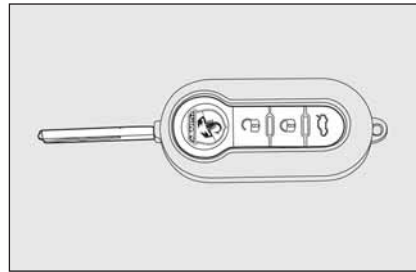
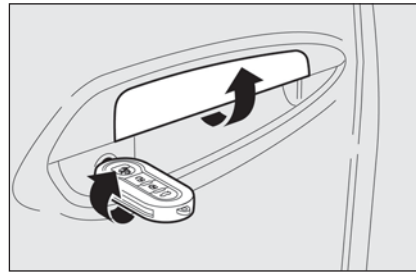
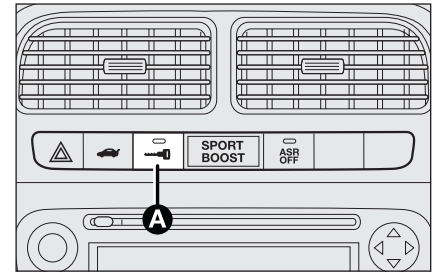

fig. 70
fig. 71
fig. 72
With the doors closed, press the button  on the remote control **fig. 70** or fit and turn clockwise the metal insert into the driver's door lock **fig. 71**. Door locking is indicated by the turning on of the button led **A-fig. 72**. Door locking is only possible if all the doors are closed. Opening one or more doors by pressing the button  on the remote control **fig. 70** will make the direction indicators and the button led **A-fig. 72** flash quickly for about 3 seconds.
Opening one or more doors by turning the metal insert of the key will make only the button led **A-fig. 72** flash quickly for about 3 seconds. If the doors are closed but the boot is open door locking will be engaged: direction indicators (only for locking performed by pressing button  **fig. 70**) and the button led **A-fig. 72** will flash quickly for about 3 seconds.
With this function active it is however possible to open the other doors by pressing button **A-fig. 72** on the central console.
Pressing twice briefly the button  on the remote control **fig. 70** will engage the dead lock device (see paragraph "Dead lock device").
Briefly press button  **fig. 70** to obtain remote door unlocking, timed ceiling light turning on, directions indicator double flashing or fit the metal insert into the driver's door lock and turn it counter-clockwise as shown in **fig. 71**.
Press button **A-fig. 72** to lock/ unlock all the doors. The button has a led showing the door condition (locked or unlocked). When doors are locked the button led is on and pressing the button will obtain central unlocking of the doors and turning off of the led. When doors are unlocked, the button led is off and pressing the button will obtain central locking of the doors. Door locking is activated only if all the doors are perfectly closed.
it will not be possible to unlock the doors by pressing button **A-fig. 72** set on the dashboard.
- locking/unlocking button **A-fig. 72**;
The dead lock device is automatically activated on every door when pressing twice briefly the remote control button , **fig. 70**.
Device activation is indicated by 3 flashing of direction indicators and flashing of the button led **A-fig. 72** located on the dashboard.